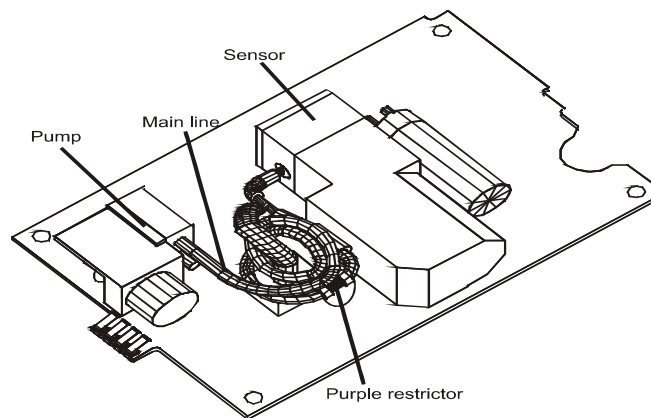

Figure 7-7: Main line
7.5.1.1 Replacing the Main line (Refer to Figure 7-7)